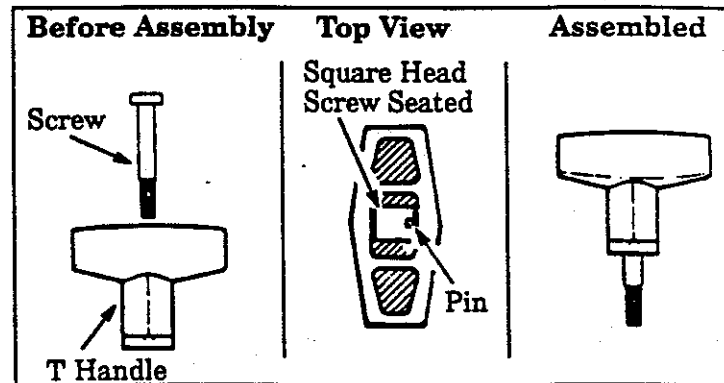

Figure 7
- c. Drop the threaded end of the square-head T-Handle Screw "C." through the opening in the top of the T-Handle. Figure 7 .
- d. Pull on the threaded end of the Screw to bring the square head of the Screw past the pin inside the T-Handle. Figure 7 .